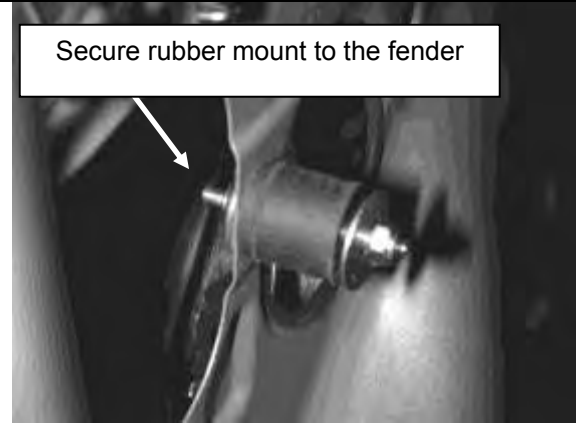

Fig. 8
- d. Install the rubber mount assembly. Secure to the fender with washer and serrated nut. Loosely attach washer and serrated nut to engine bay side of rubber mount. (Fig. 8)